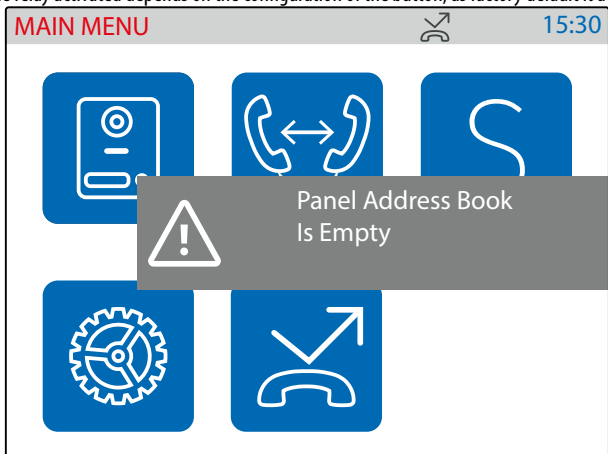

Fig. 37 Empty panel address book
- The  button, if the "Panels Address Book" it is not empty (Fig. 37), initialises a camera recall to the favourite* door panel .